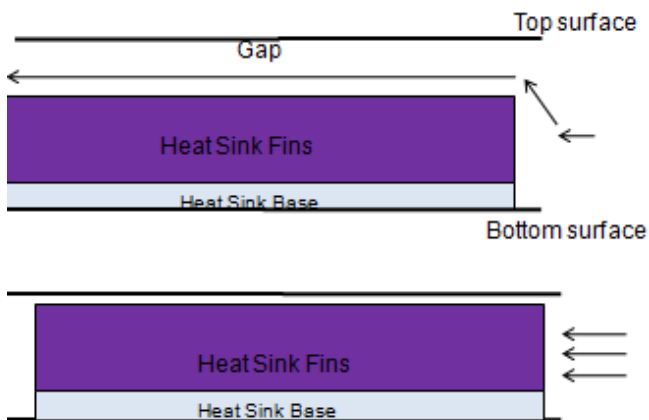

Figure 8: The air is forced to heat sink
- The air must be forced to go through the heat sink. If there is a significant gap between the heat sink and the top surface of the enclosure air will bypass the heat sink, see Figure 8.